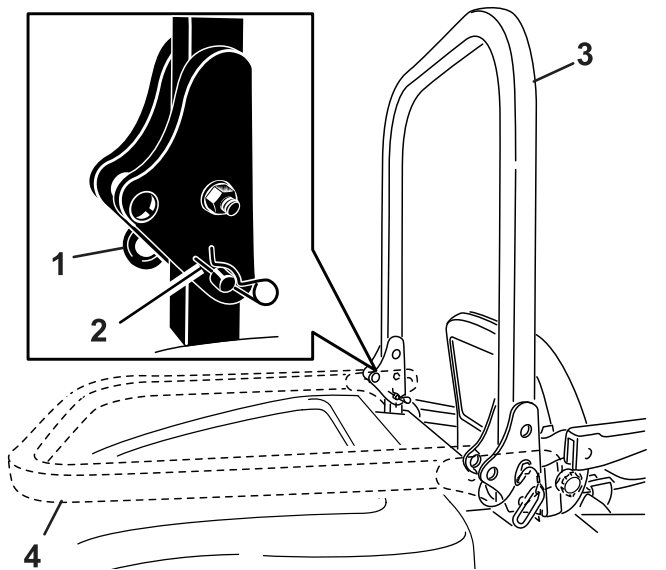

Figure 20
1. With the roll bar in the raised position, remove the hairpin cotters and the 2 pins (Figure 20).